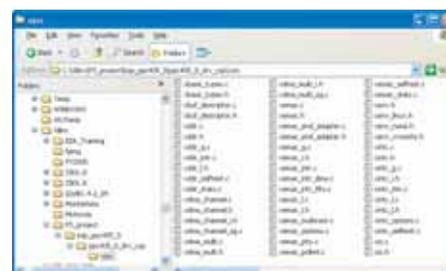

Figure 4 – Generated BSP directory structure
3. Generate the Tornado BSP by selecting the Tools > Generate Libraries and BSP menu option. The resulting BSP resembles a traditional Tornado BSP and is located in the Platform Studio project directory under `ppc405_0/bsp_ppc405_0` (see Figure 4).
This minor deviation is due to the dynamic nature of FPGA-based embedded systems. Because an FPGA-based embedded system can be reprogrammed with new or changed IP, the device driver configuration can change, calling for a more dynamic placement of device driver source files. The directory tree for the automatically generated BSP is shown in Figure 4. The Xilinx device drivers are placed in the `ppc405_0_drv_csp/xsrc` sub-directory of the BSP.